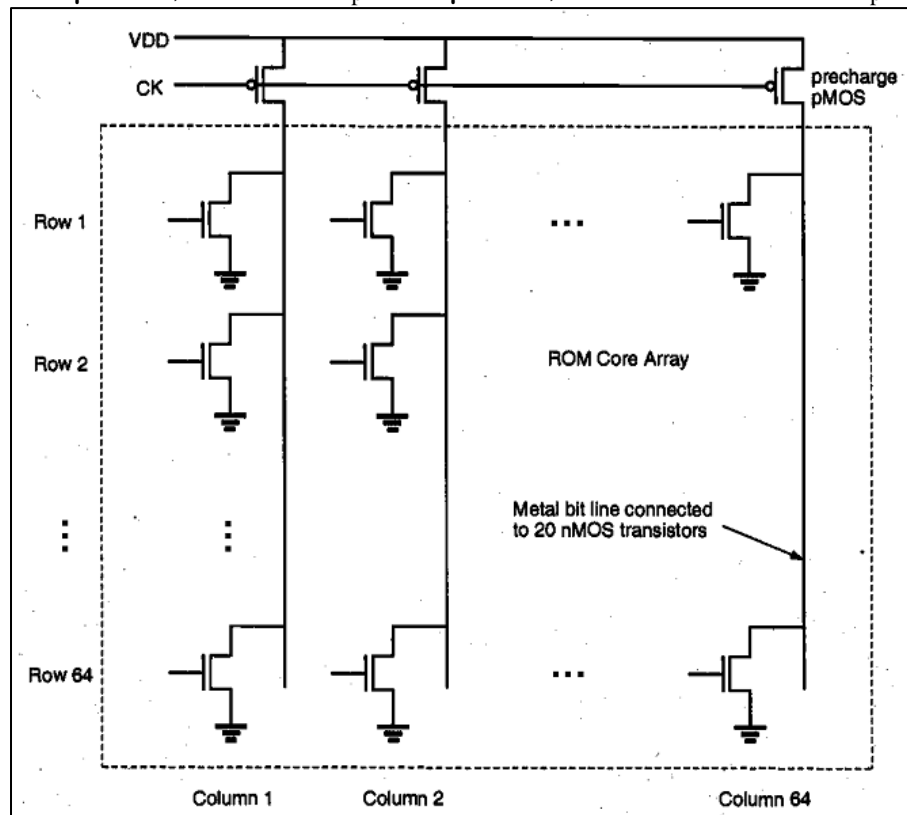

Figure 4
3) A dynamic CMOS Read Only Memory (ROM) has been designed with a core array consisting of 64 rows with a pitch of  $12 \mu\text{m}$  and 64 columns with a pitch of  $10 \mu\text{m}$ , as shown on Figure 4. Each column is pre-charged to 5 V by a PMOS transistor during the interval of zero clock phase and then is pulled down after the clock signal switches to 5V by one or more NMOS transistors (i.e., NOR implementation) with high gate inputs on the appropriate rows. All of the NMOS transistors have channel widths  $W = 4 \mu\text{m}$  and source/drain lengths  $Y = 5 \mu\text{m}$ . As a designer, you are to determine the propagation delay time from a particular input (on row 64) going high to a particular bit-line output (on column 64) going low  $\tau_{PHL}$  between 50% points. Assume that the input signal to row 64 becomes